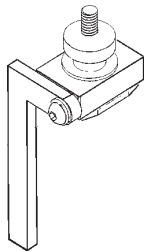

Figure 1
- Assemble the T-nut assembly (8) up through the stop block (3), secure using the knob (2) and washer (6). See complete assembly, as shown in Figure 1.